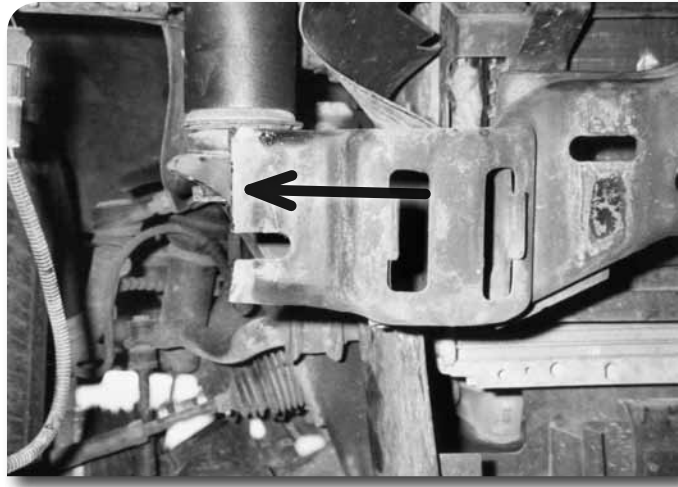

Figure 14
39. The frame must be modified to provide clearance for the fog lights (if equipped) that are mounted in the bumper. Figure 14 shows the cut required. Remove approximately 1/3 of the outer slots.